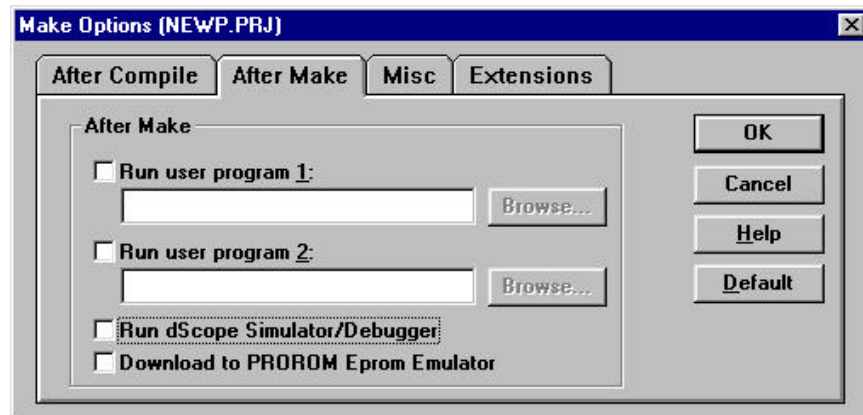

FIGURE 6
- 2) Click on After Make. The window shown in Figure 6 appears.